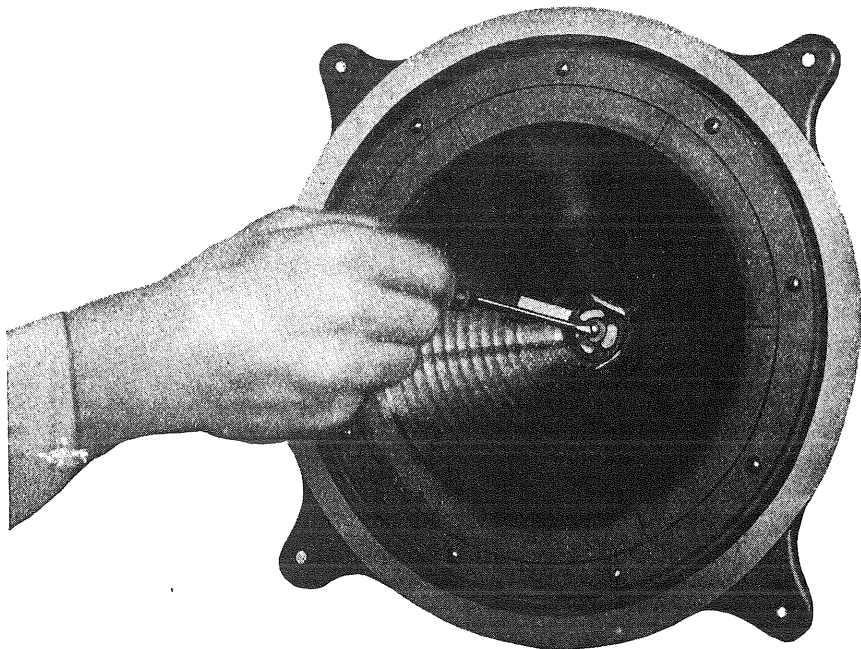

Figure 18—Centering cone
- (c) Insert three cardboard strips about the thickness of a visiting card, $1\frac{1}{2}$ " x $\frac{1}{4}$ " in size, through the center web of the cone into the space between the pole pieces and the cone (Figure 18). This will give the cone coil the same clearance on all sides of the pole piece.